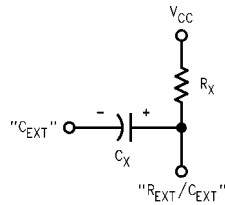

FIGURE 1.
2. When an electrolytic capacitor is used for  $C_X$  a switching diode is often required for standard TTL one-shots to prevent high inverte leakage current. This switching diode is not needed for the DM74LS123 one-shot and should not be used. In general the use of the switching diode is not recommended with retriggerable operation. Furthermore, if a polarized timing capacitor is used on the DM74LS123 the negative terminal of the capacitor should be connected to the "CEXT" pin of the device (Figure 1).